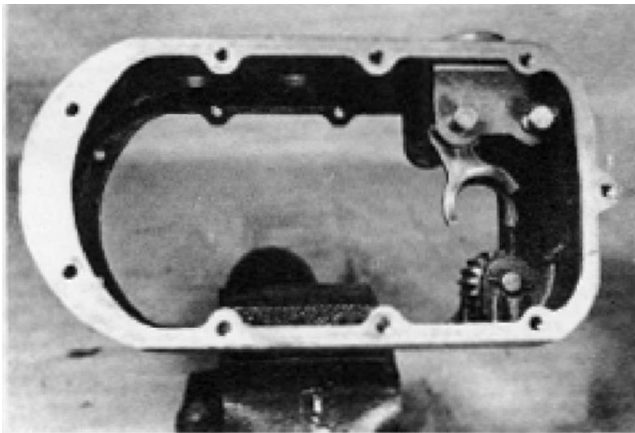

FIGURE 9
1. Install the reverse idler gear in position so that the chamfered end of the gear faces the left side of the case. This will position the gear with the straight edge toward the right side of the case, as shown in Figure 9. Install the reverse idler pin and secure with a roll pin.